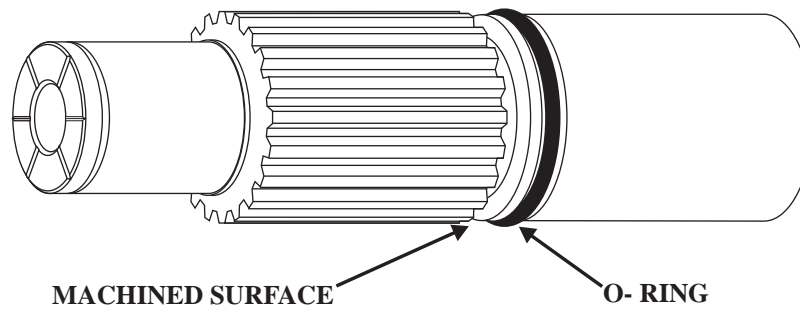
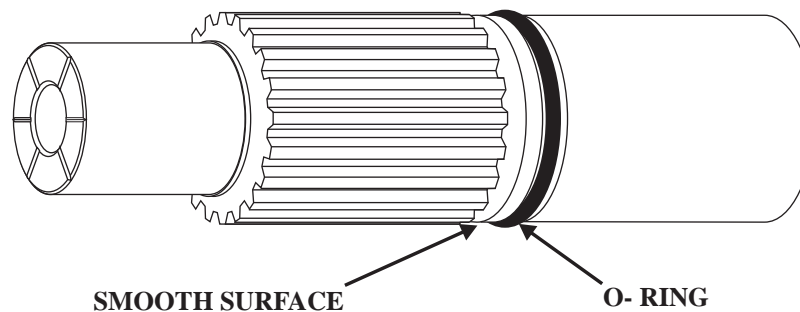

Figure 2
Figure 3
- (1) ACTUATORS - 4th Design now has redesigned screens added to the control pressure side of the actuators as illustrated in Figure 1, and have the same resistance values as the 2nd and 3rd Design actuators, and are identified *without* the previous design plastic top or is called the Black Top Actuator. The 1st and 2nd Design actuators are shown in Figure 2. The 3rd and 4th Design actuators are shown in Figure 3. Actuator locations on the valve body are shown in Figure 4.